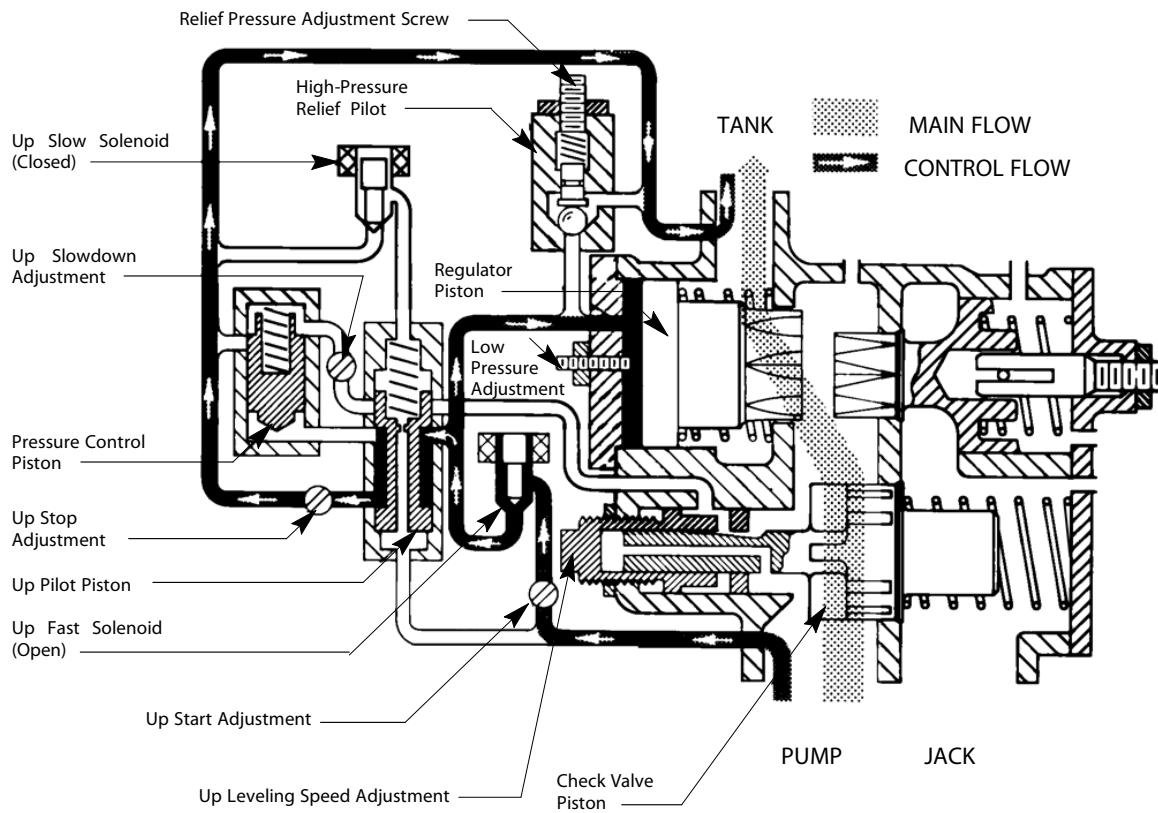

Figure 6 - Up Start Diagram
1. To start the car, the pump starts and the up fast solenoid energizes. See Figure 6 on page 52 and Figure 7 on page 53.